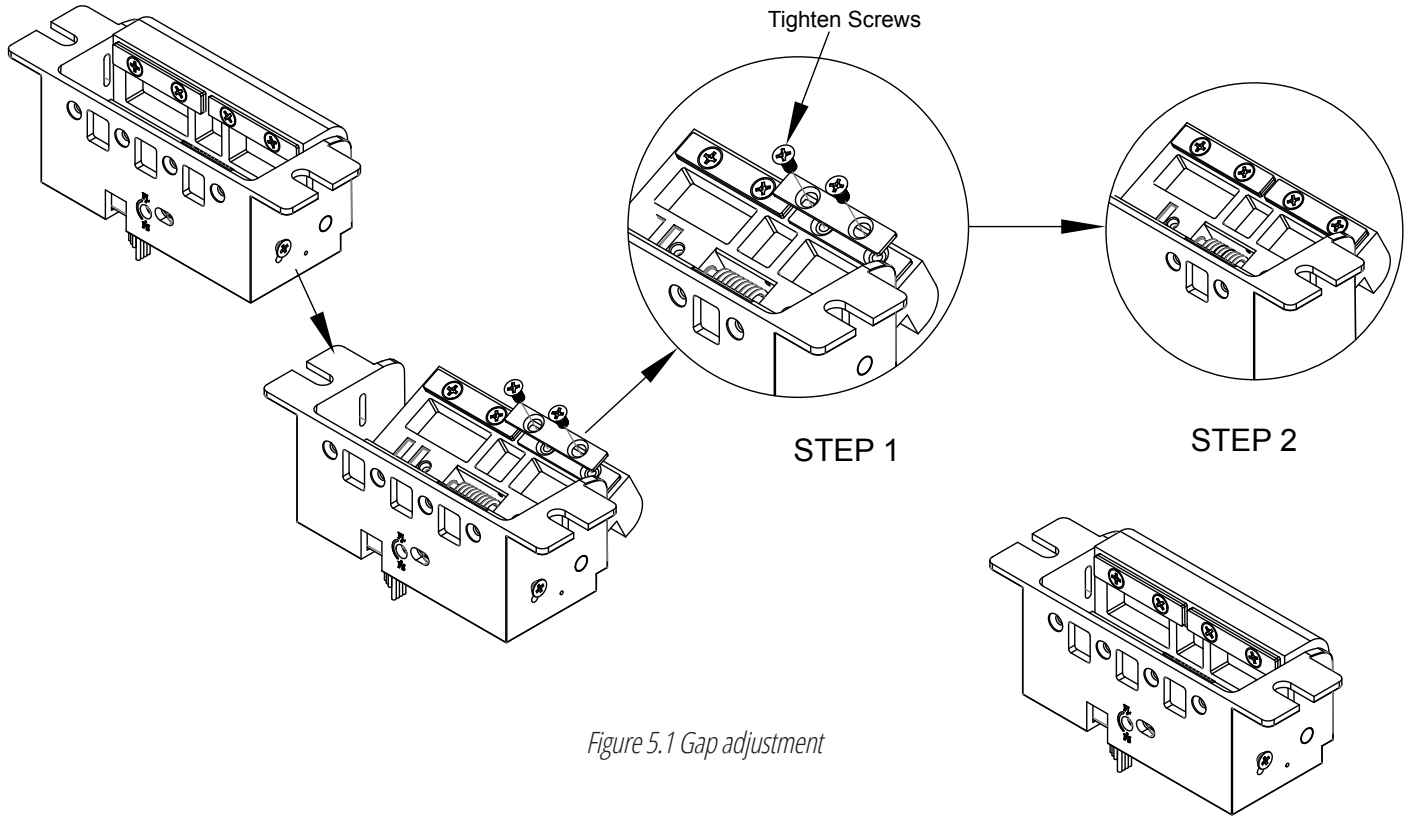

Figure 5.1 Gap adjustment
1. First loosen and remove the two set screws that secure the keeper shims (see Figure 5.1).